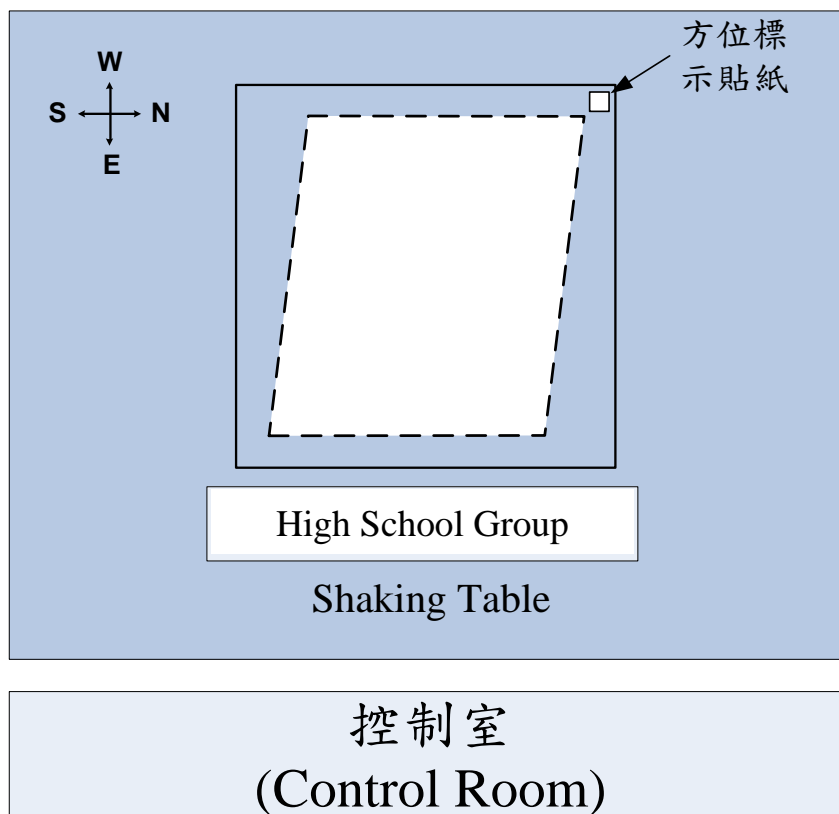

Figure 12. The orientation of the model fixed on the shaking table.
- 7.9 The side of the base board marked with a sticker is where the model should be built on. In addition, when mounting the model onto the shaking table, the sticker should be on the northwest corner (shown as Figure 12). If there is any question about the relative positions or directions shown in Figure 13, please ask the staffs/judges for assistance.
- 8.5 The mentioned directions are according to those specified in the lab. Figure 12 shows the directions and the orientation for mounting the models to the shaking table.